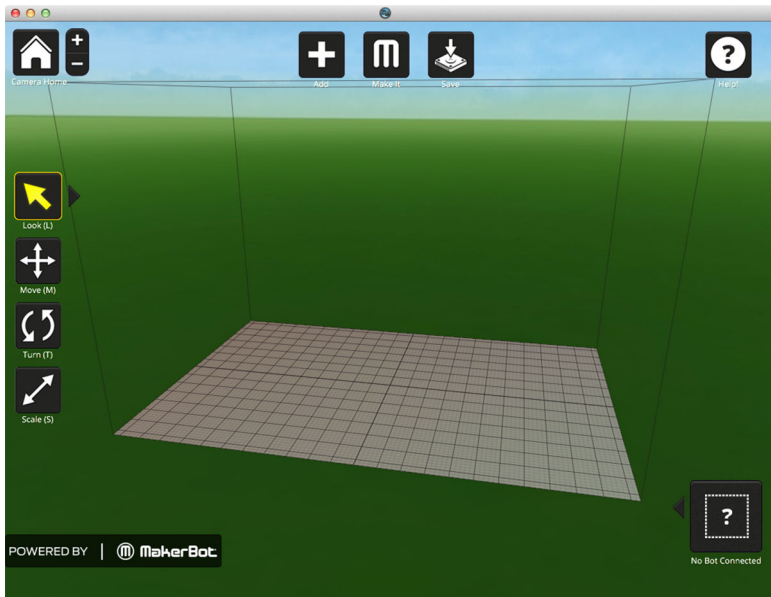

Figure 6-27. *The MakerWare window*
1. Open MakerWare, and it will appear (Figure 6-27).